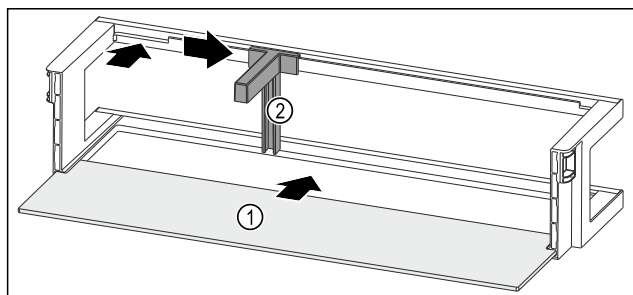

Fig. 279 Door rack with shelf
- ▶ Push the shelf Fig. 279 (1) into the side recesses.
- ▶ Insert the bottle holder Fig. 279 (2) in the recess.
- ▶ Push the bottle holder Fig. 279 (2) to the desired position to the side.